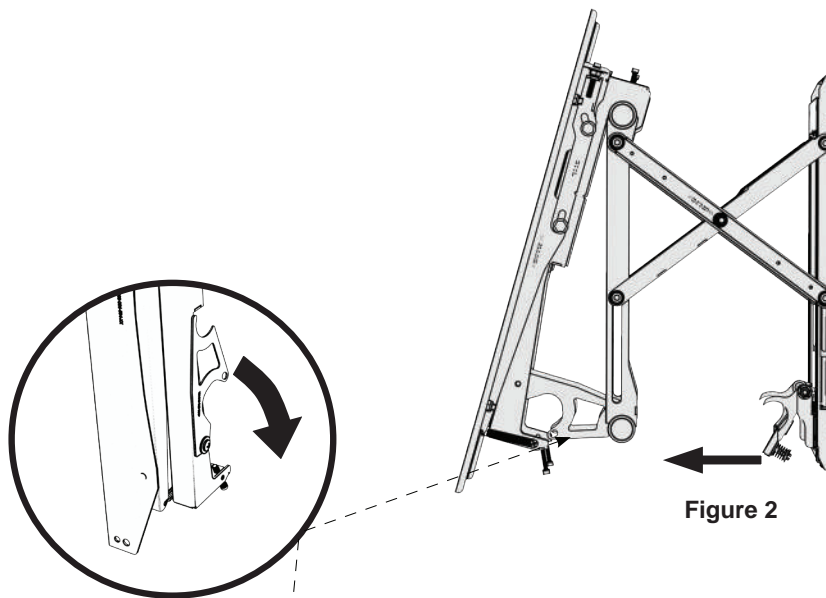

Figure 2
- 2) Slowly pull the front of the PFW 6875 to extend the scissor arms (Figure 2).
- 4) Tilt up the bottom of the flat-panel, then set their kickstands against the bottom tubing of the mount (Figures 2 & 3).